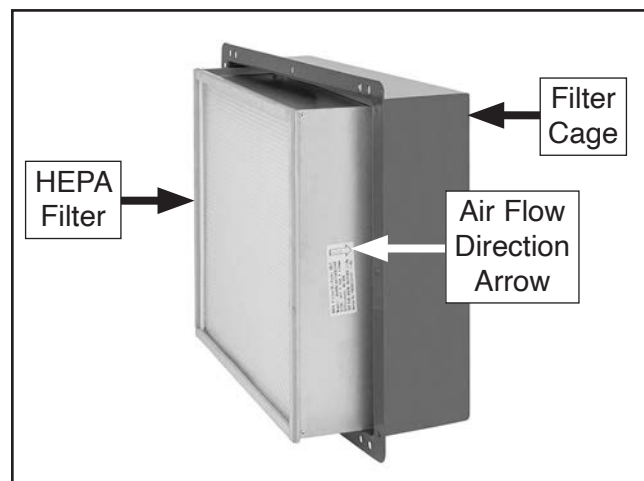

Figure 57. Placing HEPA filter in filter cage.
5. Place new HEPA filter in filter frame so air flow direction arrow points into cage (see **Figure 57**).